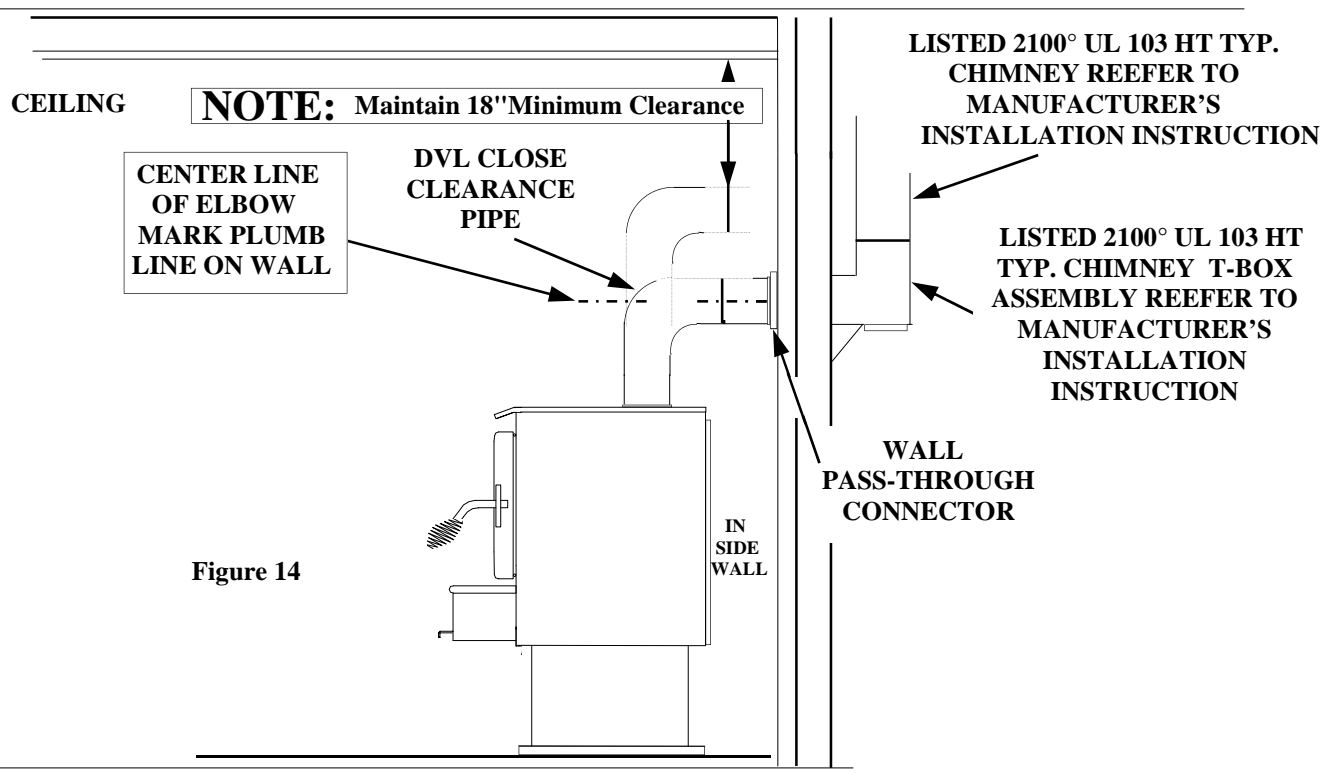

Figure 14
(See Page 22, Figure 14).
3. Measure up so there will be at least 1/4" rise per foot of horizontal connector pipe, maintaining clearances to ceiling as noted in (Page 21, Figure 14). This will give you center of hole for chimney penetration.
5. Connect the DVL close clearance pipe to tee-box per manufacturer’s instructions, DVL close clearance pipe is to be connected with (3) sheet metal screws or rivets to connector collar on heater (See Page 22, Figure 14).